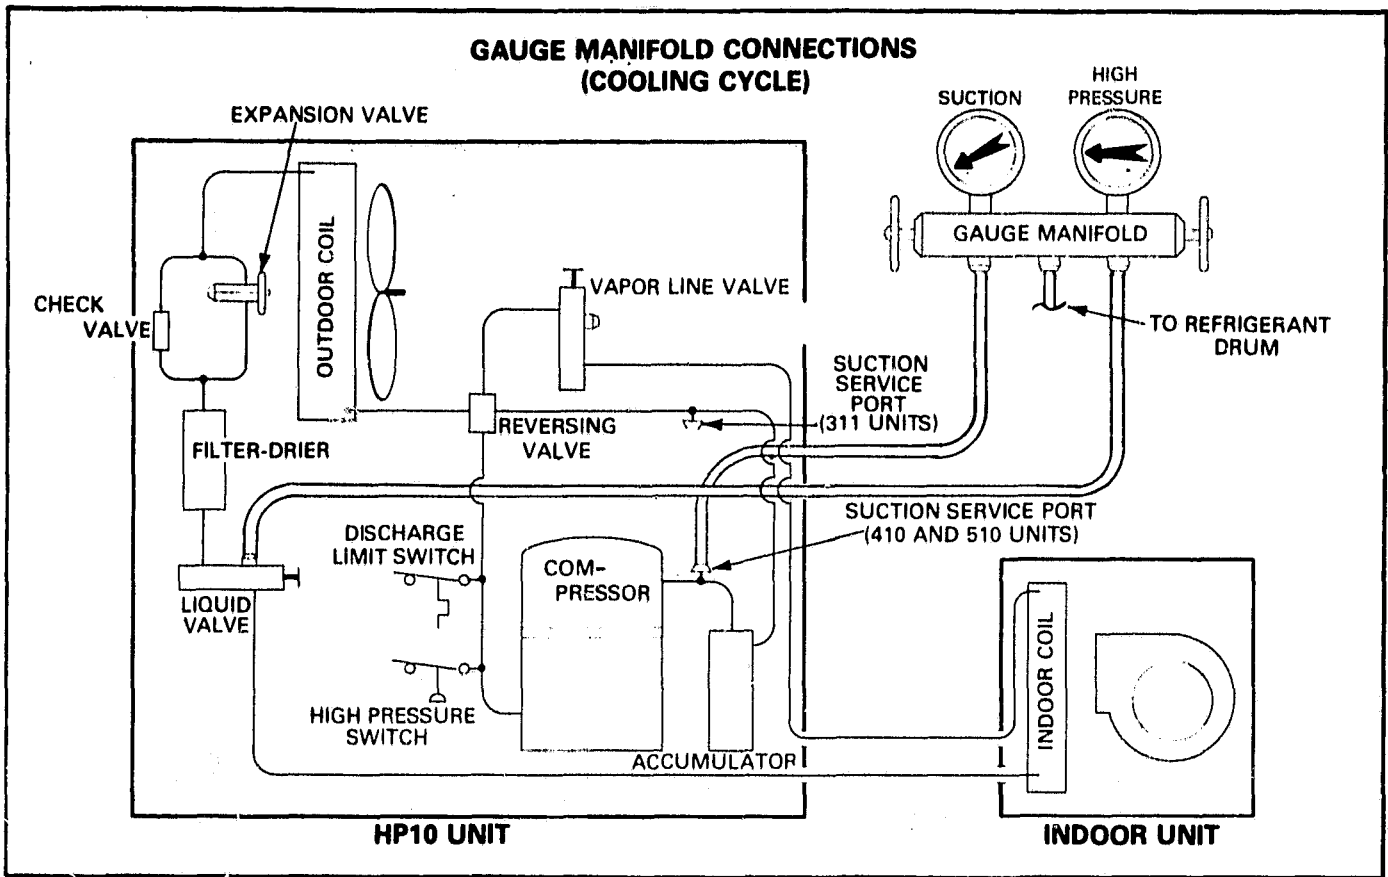

FIGURE 1
- 2 - Cooling Cycle, Checking Charge or Charging - Connect high pressure side of gauge manifold to gauge port on liquid line service valve. Connect suction side of gauge manifold to vapor line gauge port. Refer to Figure 1.